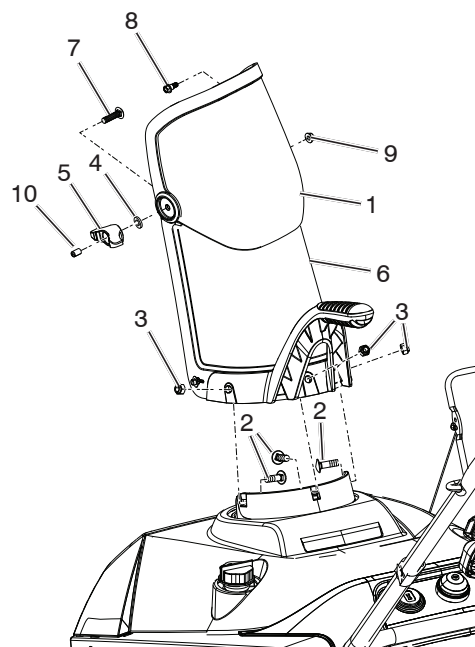

Figure 4
1. Install the chute deflector to the discharge chute using bolts and, washer, nut, deflector knob and cap plunger. (Figure 4)
2. Install the discharge chute to the chute base using three screws and nuts (Figure 4).